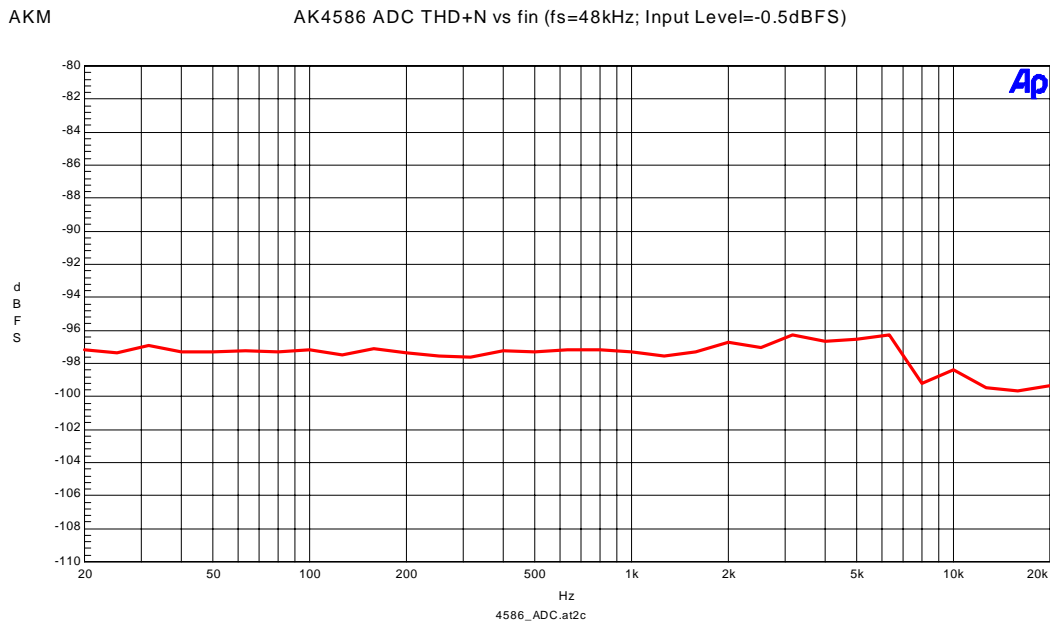

Figure 1-5. THD+N vs fin (Input Level=-0.5dBFS)
- Figure 1-5. THD+N vs fin (Input Level=-0.5dBFS)